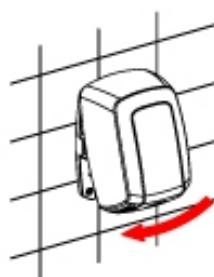

**Figure 7**
- Connect the electrical cables to the hand dryer's terminal strip. Connect the cables corresponding to the two phases (N and L) and to earth in the corresponding sockets of the terminal strip, as indicated by the engraved letters (Figure 7).